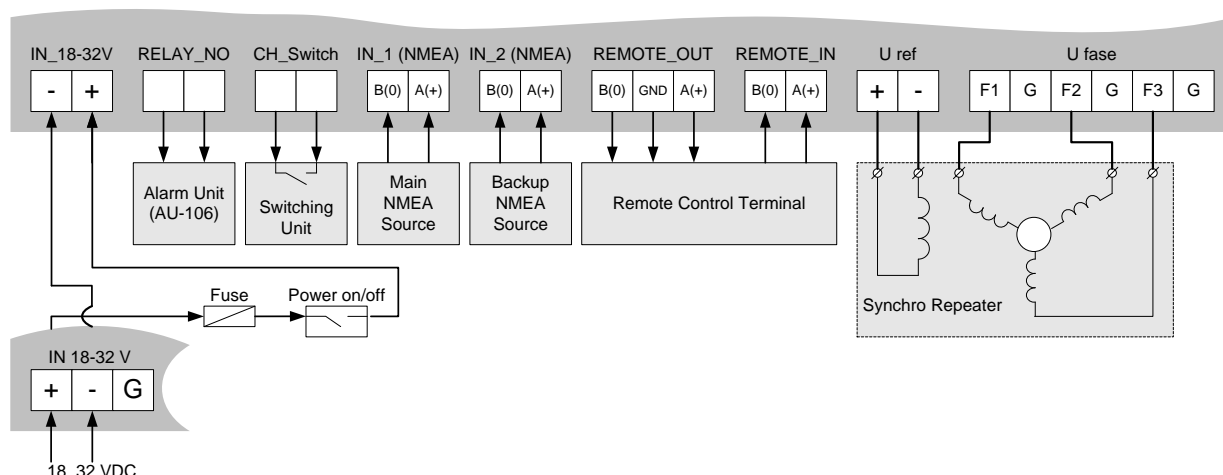

Figure 3 – Connection diagram of the external devices to the DAC
- b) lead connection cables from the external devices and power supply unit. Connect the cables according to Figures 3–5 to the detachable terminal blocks;